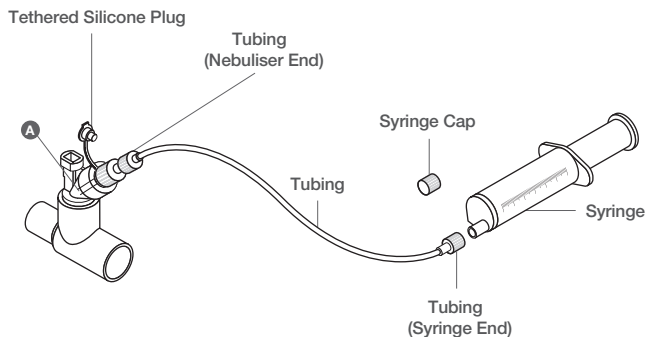

Figure 5. Continuous Nebulization Tube Set
7. Insert the syringe filled with medication into the syringe infusion pump (pump not shown in Figure 5).